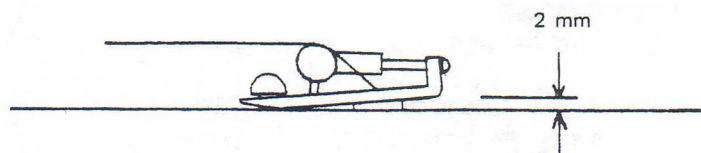

Fig. 5
7. Adjust tension springs ⑪ for 2mm clearance between bottom of the tailpiece and guitar face at the back end with screws ⑫ (See Fig. 5.)
Back to steps 2-5, this time in combination with step 7. Repeat tuning and measure clearance between tailpiece bottom and guitar top, (Fig. 5). Readjust spring ⑪ tensions as necessary.
9. STRING HEIGHT With strings open adjust screws ⑥ to the height in the table below.